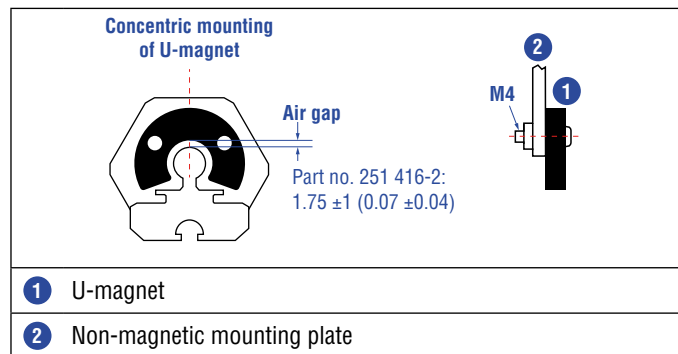
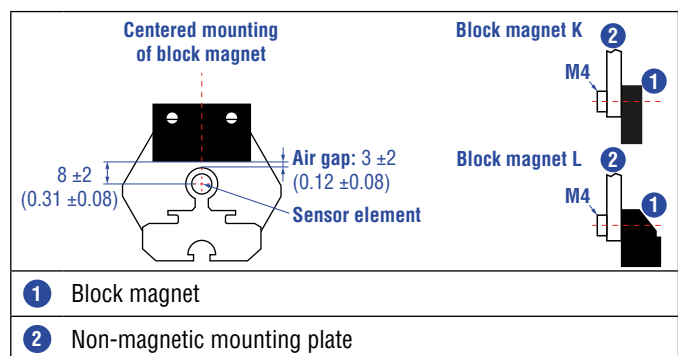

Fig. 35: Mounting of U-magnet (part no. 251 416-2)
Fig. 36: Mounting of block magnet K (part no. 251 298-2) and block magnet L (part no. 403 448)
- The maximum permissible air gap must not be exceeded (Fig. 35/ Fig. 36). Take care to mount the primary sensor axis in parallel to the magnet path in order to avoid damage to the carriage, magnet and sensor rod/sensor profile.